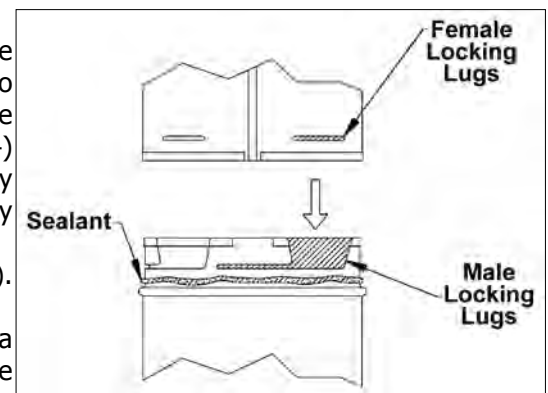

Figure 27: Twist-Lock Connection.
- (1) Twist-lock procedure: Four (4) indentations, located on the female ends of pipes and fittings, are designed to slide straight onto the male ends of adjacent pipes and fittings, by orienting the four pipe indentations so they match and slide into the four (4) entry slots on the male ends. Push the pipe sections completely together, then twist-lock one section clockwise approximately one-quarter turn, until the two (2) sections are fully locked.
- (2) Horizontal runs of vent must be supported every 3 feet (915mm). Wall Straps are available for this purpose.
- (3) Sealant is only necessary on the outer tube of the GS Pipe. Run a 1/8 inch (3mm) wide bead of sealant around the male end of the outer sleeve, as shown in Figure 27, and twist-lock the pipes or fittings together.